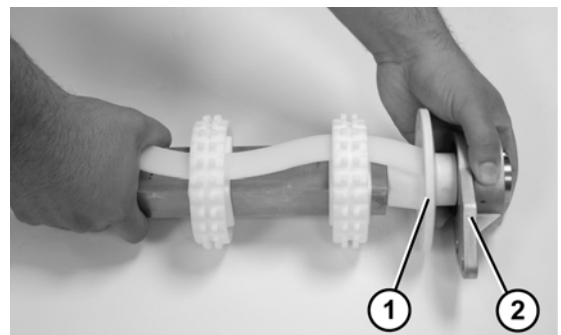

Figure 70
4. Attach the flanged pucks (Figure 70, item 1) and the 3 hole flange with bearing (Figure 70, item 2) to the drive spindle.